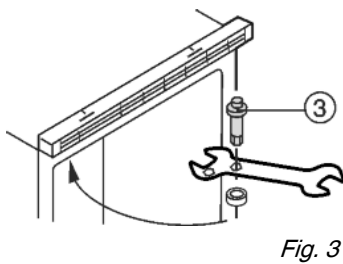

Fig. 3
- ▶ Unscrew the top hinge pin Fig. 3 (3) and firmly screw it in on the opposite side (with 4 Nm).
- ▶ Attach the door to the upper hinge pin Fig. 3 (3) and close it.